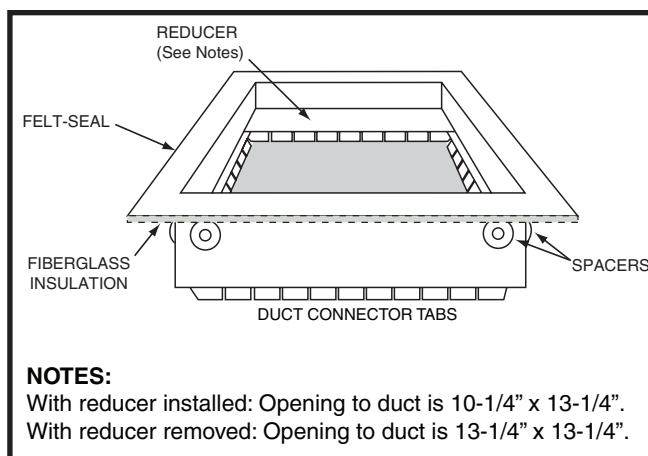

Figure 9. Duct Connector
- NOTE:** The furnace may be installed on combustible flooring when installed on a duct connector (Figure 9).